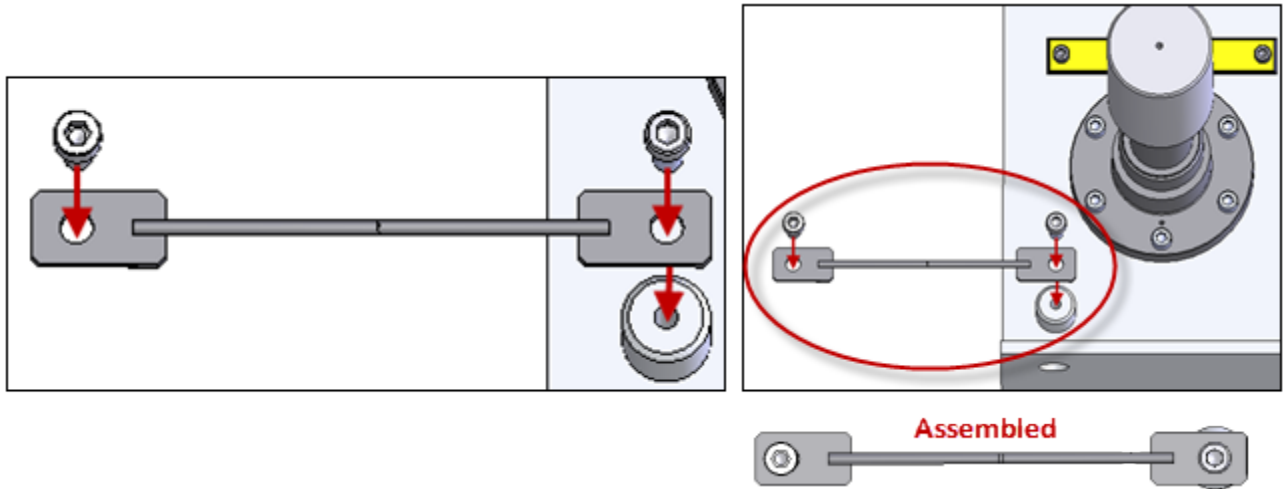

Figure 1
- 3.1.2.7 The frame has been supplied with a ground strap and mounting screw. (Figure 1) Ensure the ground strap tab is secured to an unpainted surface of the host structure to provide connectivity to the CP system. Tighten the screw to the torque value per table 1.